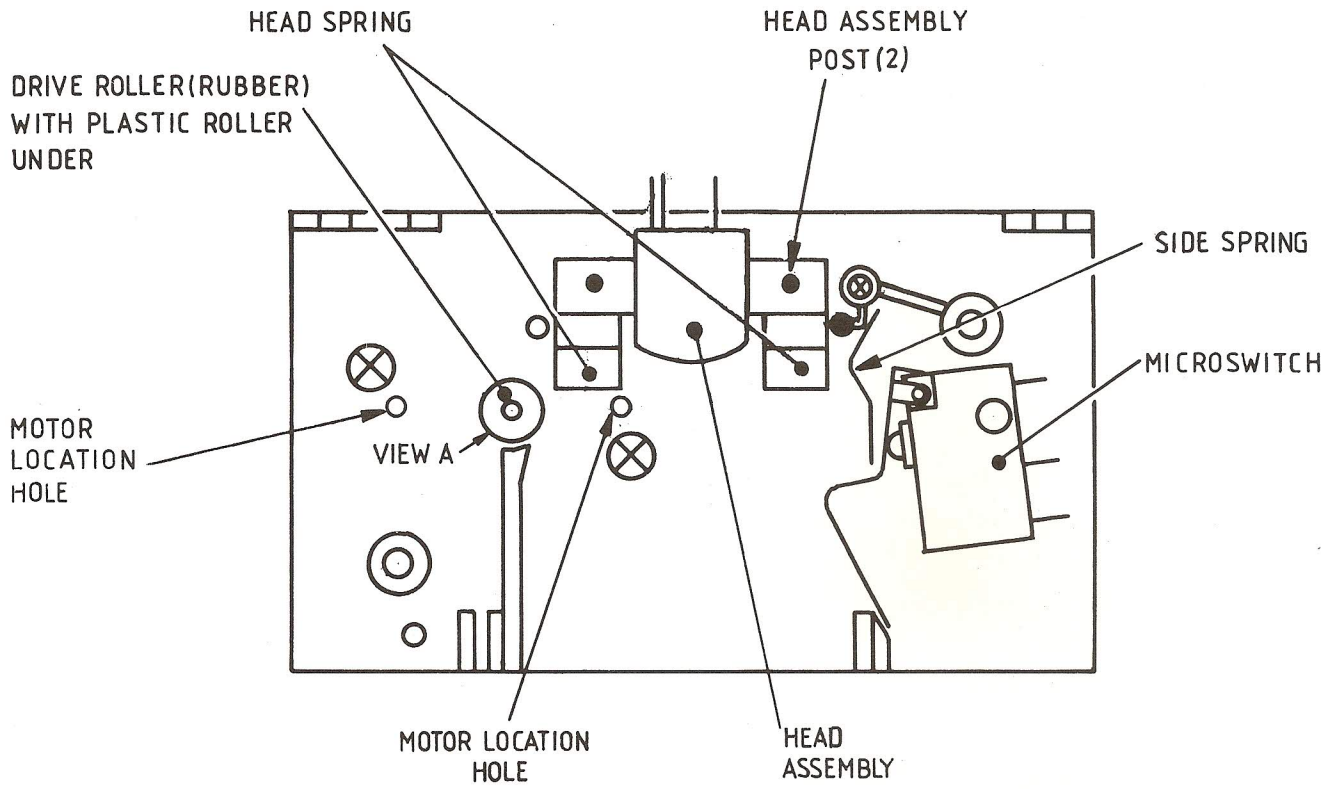

FIGURE 4.3 HEAD CHASSIS
2.4.1 The microdrives have been a source of some problems in the pre-Issue 6 units. The mechanical layout is shown in Figure 4.3. Note that it is not possible to replace the read/write head on the microdrives, but all other components are replaceable. If the system test indicates a microdrive failure, the indicated microdrive, MDV1 or MDV2, must be further investigated. Where the fault finding guide (para 2.4) indicates microdrive failure, refer back to this paragraph.